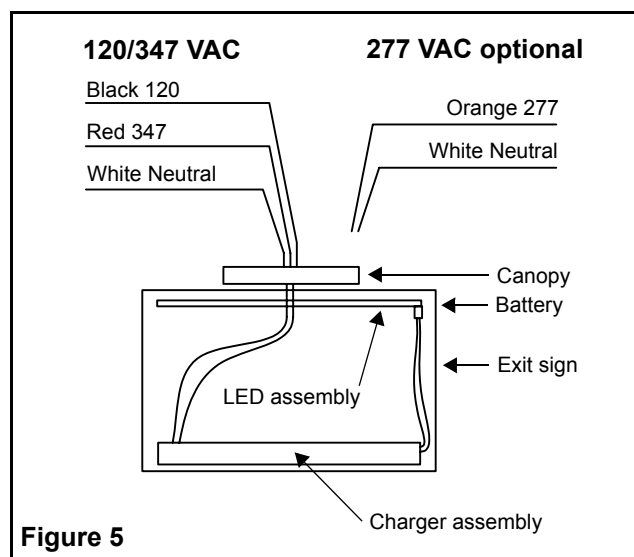

Figure 5
- e. Make the proper connections (see fig. 5).
- Make the proper connections (see fig. 5).